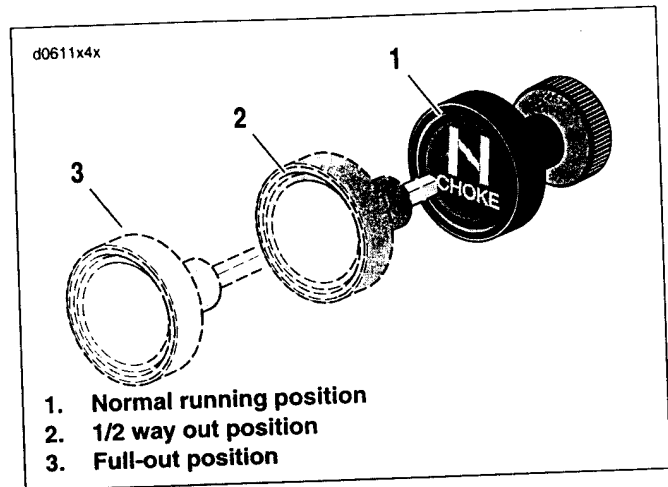

Figure 4-1. Enrichener Operation
See Figure 4-1. **BE SURE THROTTLE IS CLOSED.** Pull enrichener knob to full-out position (3). Turn the ignition switch ON and press starter switch to operate the electric starter.
1. After initial 15-30 second warm-up, ride for 3 minutes or 2 miles (3.2 km) with the enrichener knob in full-out position (3).
2. After 3 minutes or 2 miles (3.2 km), push the enrichener knob in to the 1/2 way position (2). Ride 2 minutes or 2 miles (3.2 km).
3. After 2 minutes or 2 miles (3.2 km), push the enrichener knob fully in to the normal running position (1).
1. After initial 15-30 second warm-up, ride for 1 minute or 0.5 mile (0.8 km) with the enrichener knob in full-out position (3).
2. After 1 minute or 0.5 mile (0.8 km), push the enrichener knob in to the 1/2 way position (2). Ride 1 minute or 0.5 mile (0.8 km).
3. After 1 minute or 0.5 mile (0.8 km), push the enrichener knob fully in to the normal running position (1).